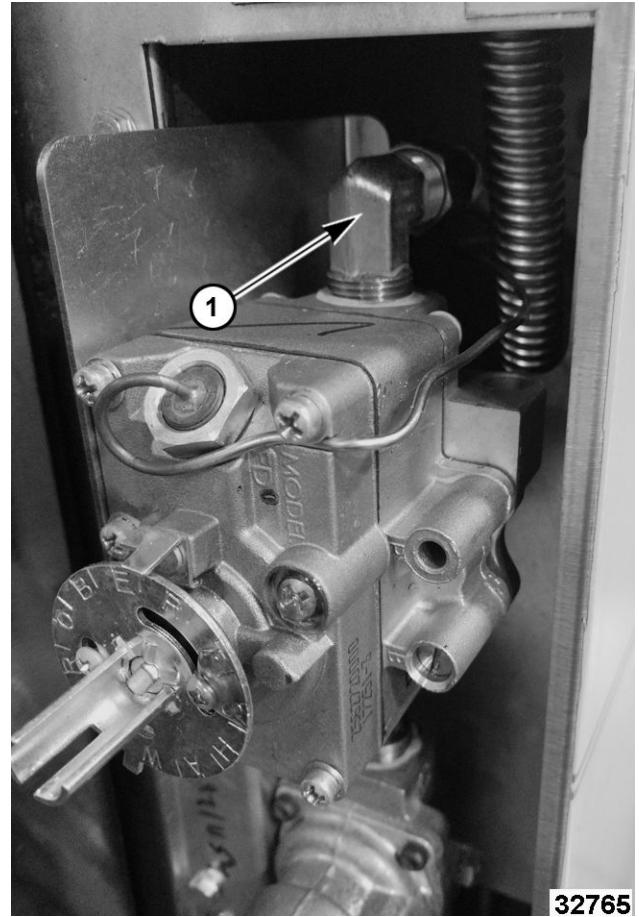

Fig. 2
5. Disconnect flex line (1, Fig. 2) from top of temperature control.